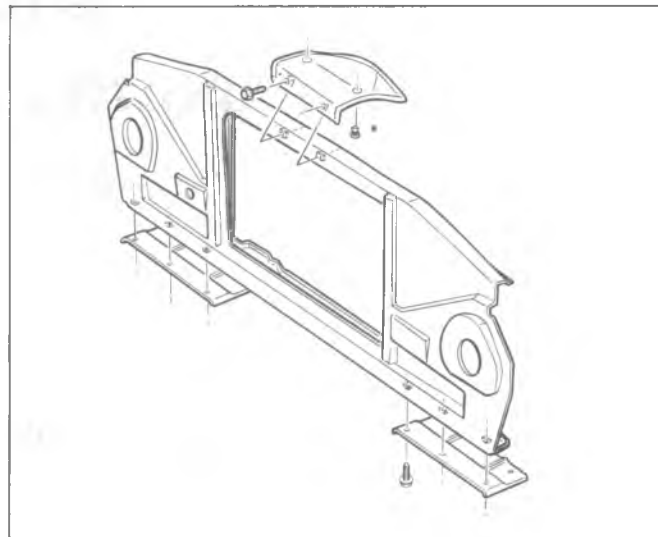

Fig. 3—Finger Guard Mounting
2. Remove finger guard, if so equipped (fig. 3).